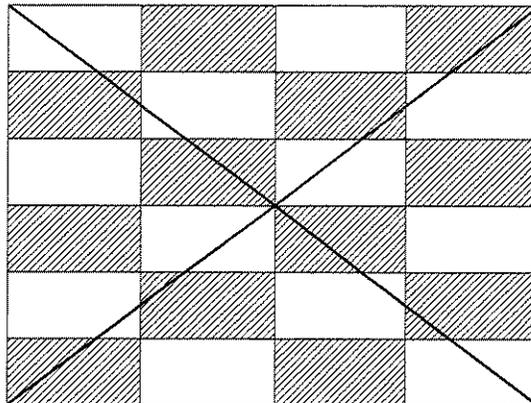

Figure 1-17. Center Portion of Display Test Pattern
2. Compare the test pattern to figure 1-17 and adjust as indicated in table 1-3.